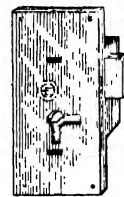

Fig. 429.—Straight Cupboard Lock.
**Fitting Straight Cupboard Locks.**—Straight cupboard locks (Fig. 429) do not need cutting in, but are unsightly. They have an advantage not possessed by a cut cupboard lock, of being equally available for right or left. Their fixing is very simple, as they are merely screwed flat on